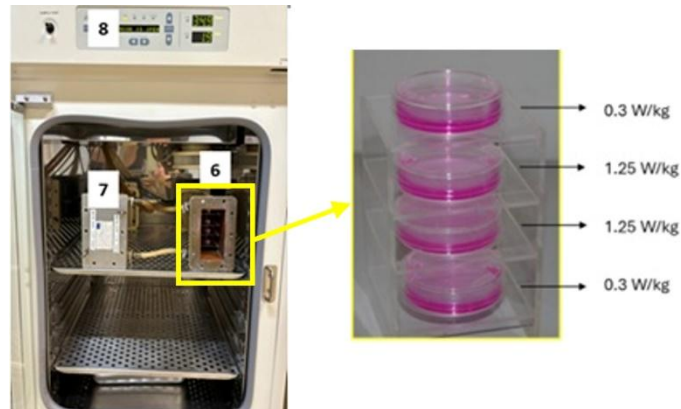

Figure 2. Plexiglas stand hosting cell culture dishes. A higher SAR value is obtained in the central samples with respect to the distal ones (4:1 SAR ratio).
- Locate the dishes on the Plexiglas stands (figure 2), insert the stands in each waveguide at the required distance from the short-circuit by using the spacer and close each waveguide with the metallic slab. Perform this procedure two hours before starting exposure to allow the samples to acclimate in the waveguides.